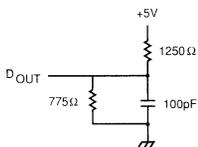

Figure 1
1. Transition is measured $\pm 500mV$ from low or high impedance voltage with load (Figures 1, 2 & 3).
Output Load	See Figures 1, 2, and 3